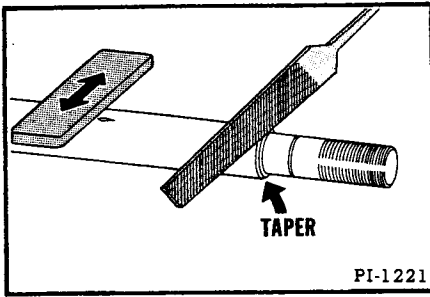

Fig. 146 Shaft Preparation
1. File or grind a slight bevel on the shoulder at the piston end of the cylinder shaft (Figure 146). This will allow the seals to be installed over the shoulder without damaging them. Dress all nicks off the shaft (Figure 146). Do not use a power grinder or a file for this purpose.